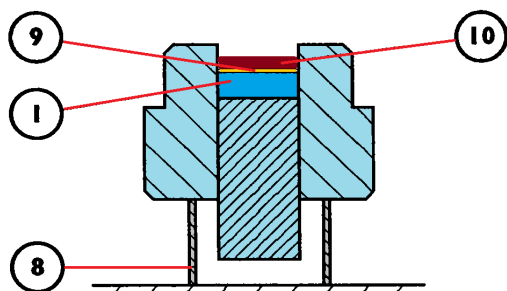

Fig 23.
extractor ring (8) as shown in Fig 23. The die is assembled inverted with the pellet (1) and ultra-micro frame in place. The aperture is carefully filled with the powder sample such that it is heaped 1 to 2mm above the surface of the frame (9). The bottom pellet (1) is then put into place and the base (2) is fixed to the cylinder body assembly. This whole assembly is then turned the right way up ready to be pressed.